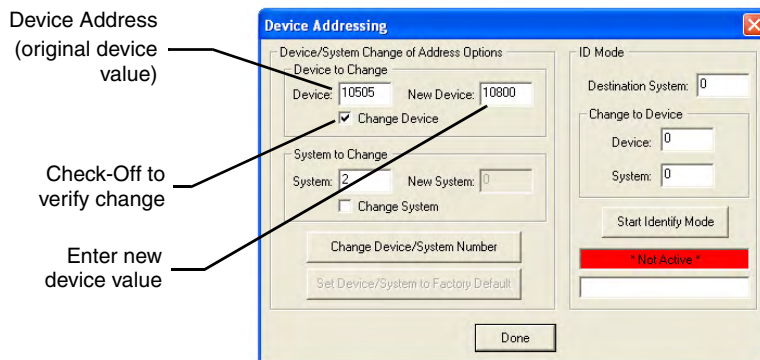

FIG. 34 Device Addressing dialog (changing the device value)
1. Access the Device Addressing dialog (FIG. 34) by either one of these two methods:
1. Access the Device Addressing dialog (FIG. 34 on page 46) by either one of these two methods: